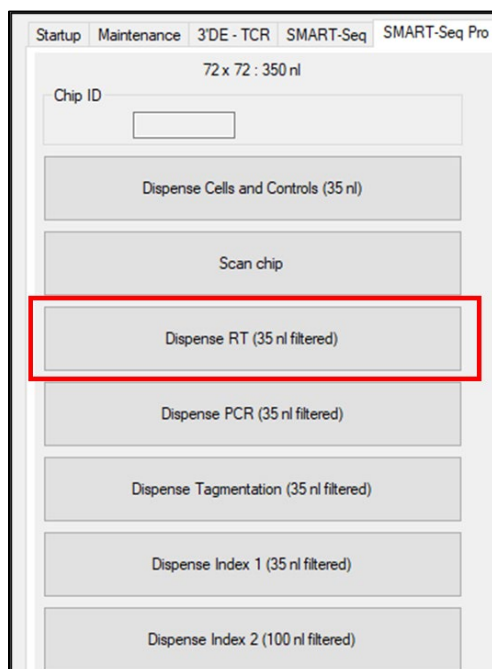

Figure 14. Using CELLSTUDIO software to dispense the RT mix.
- At Step 8, click the [Dispense RT (35 nl filtered)] button (Figure 14).